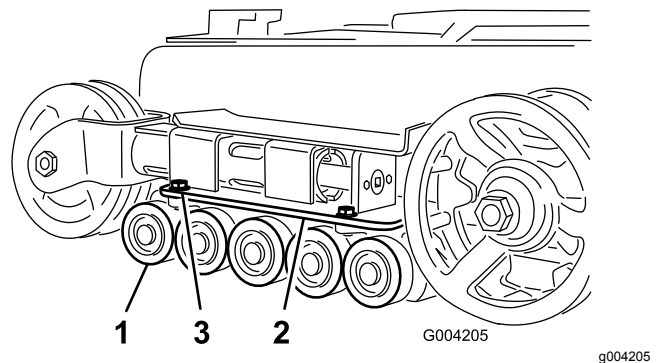

Figure 48
2. Remove the 4 bolts securing each lower track guide which contains the road wheels, and remove them (Figure 48).